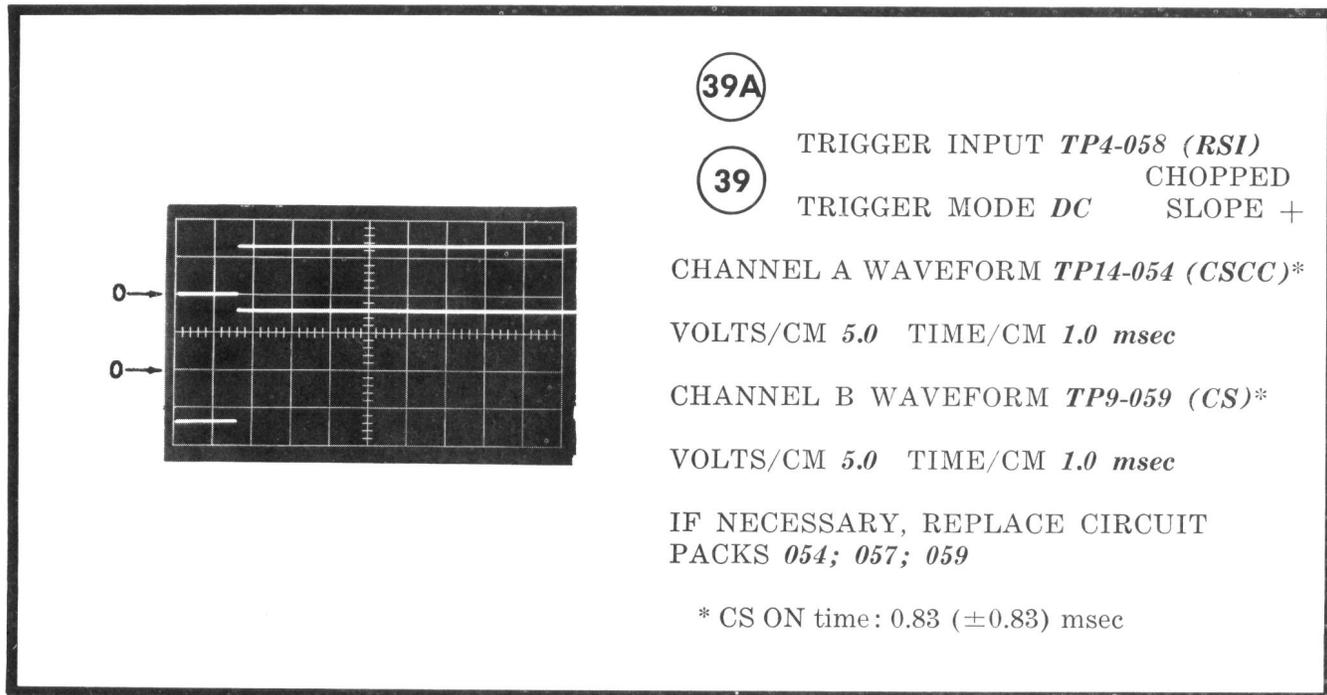
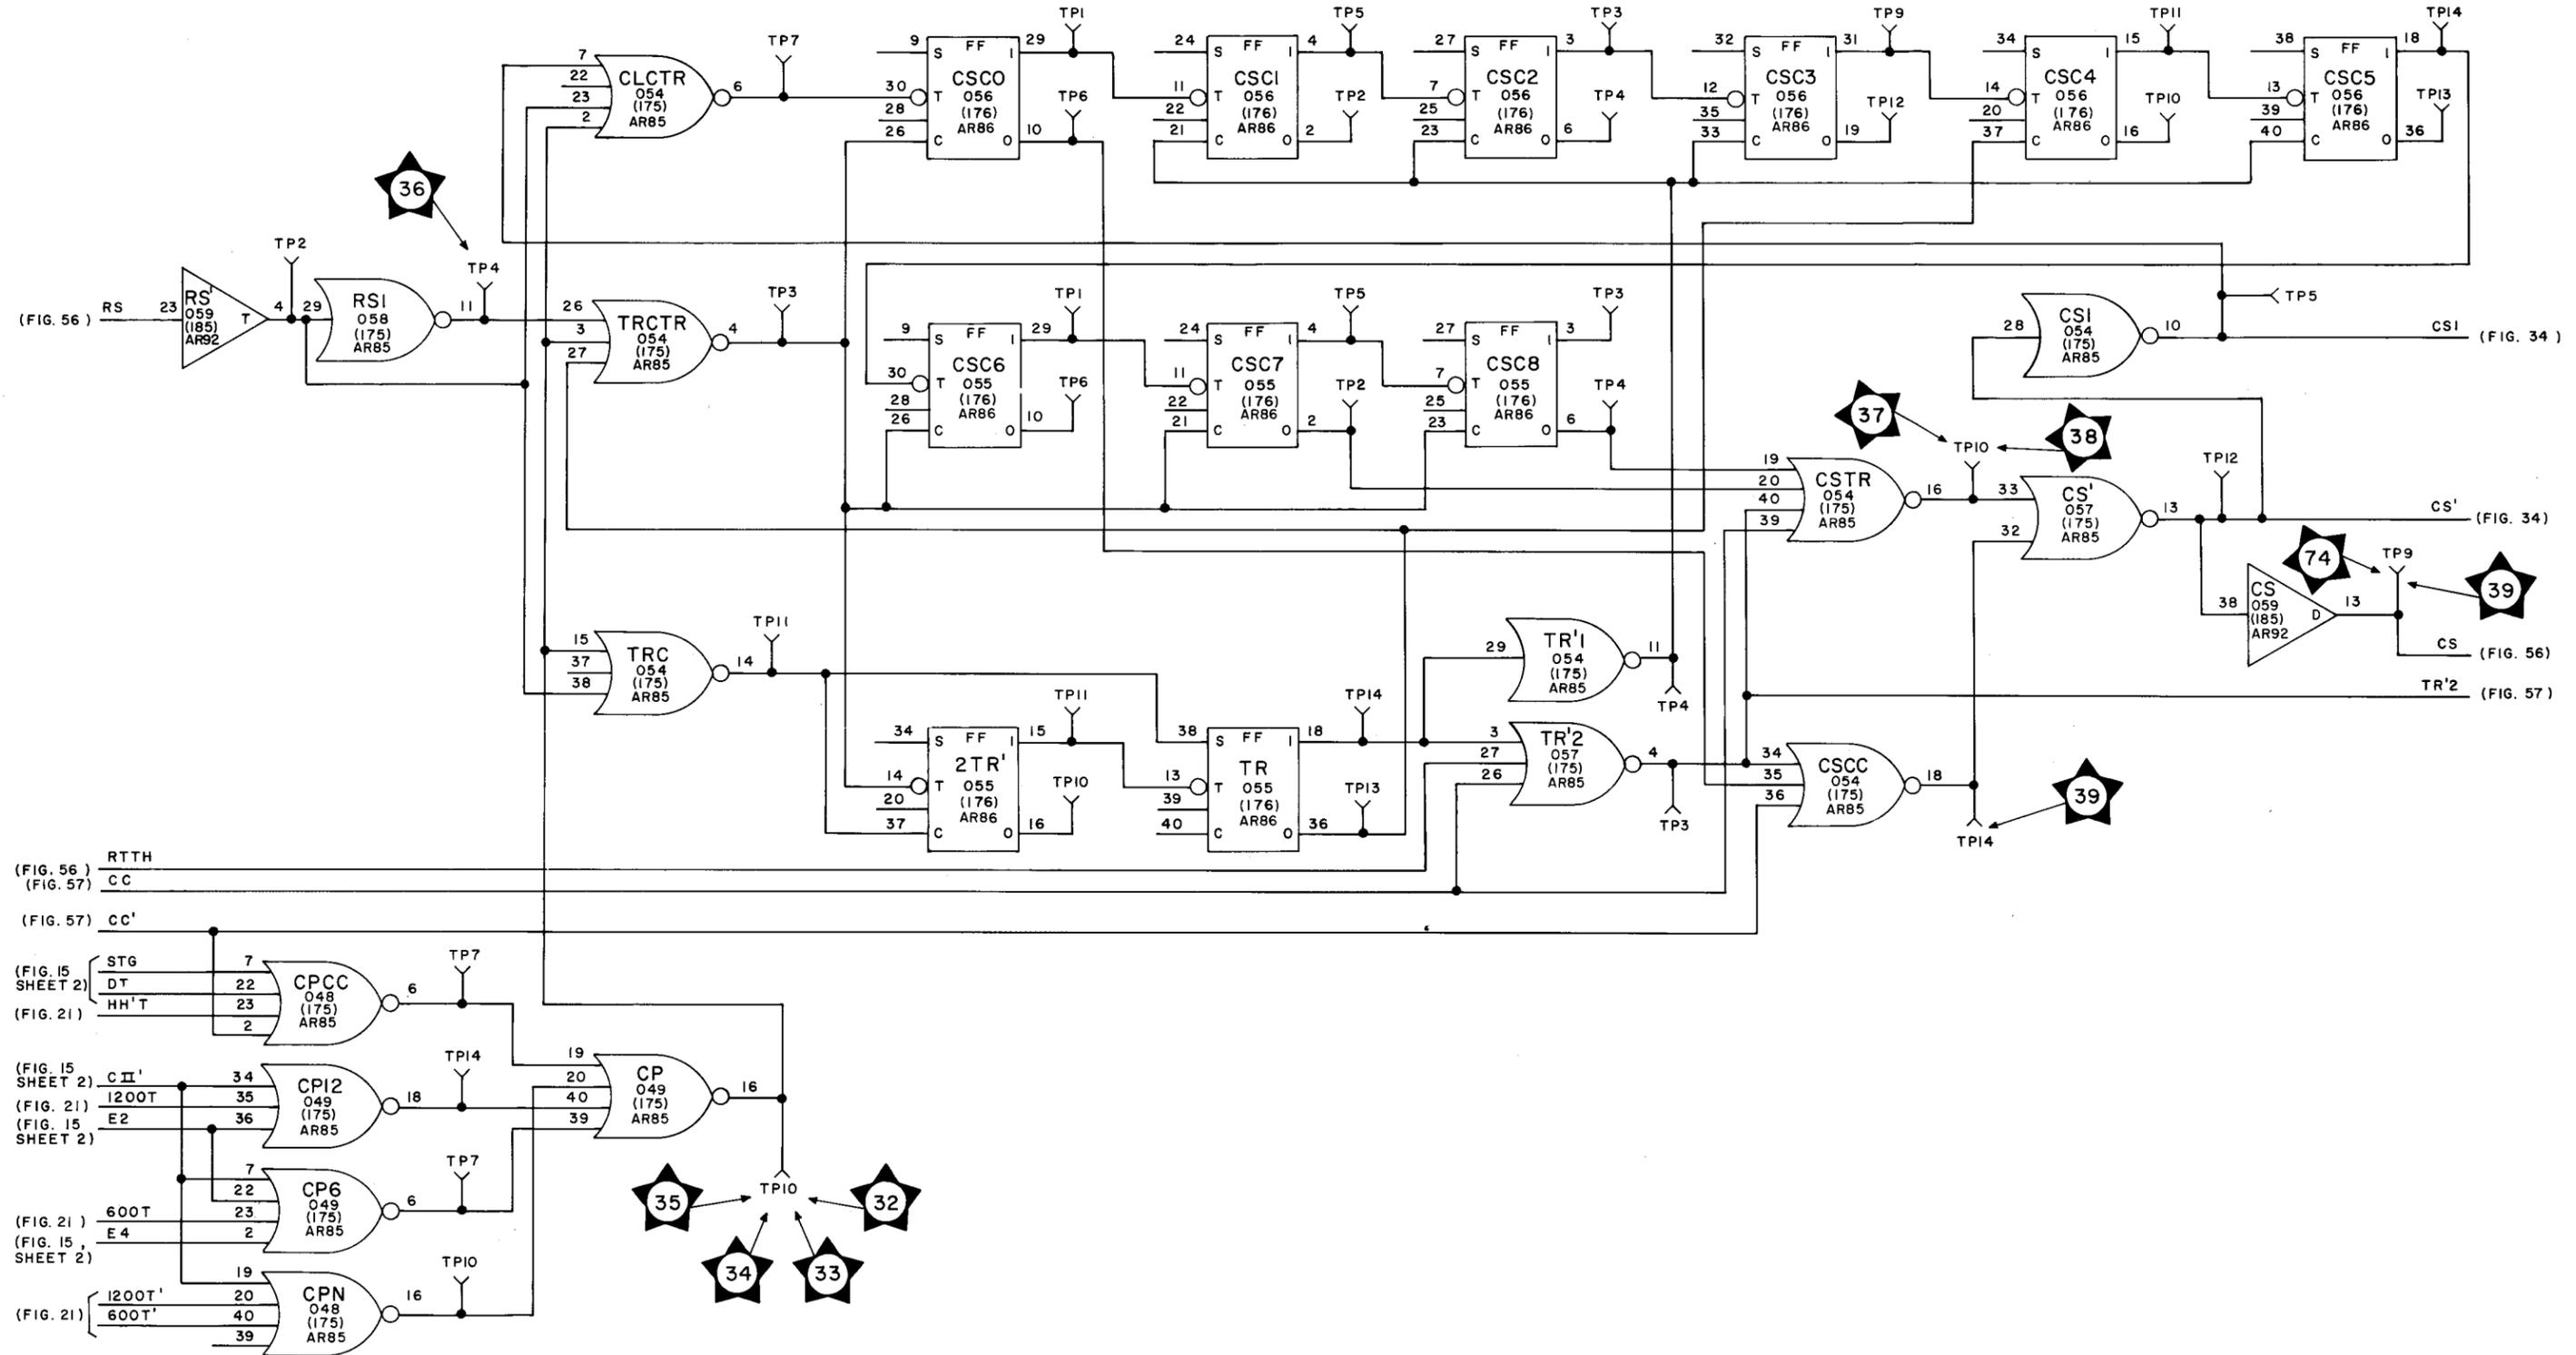
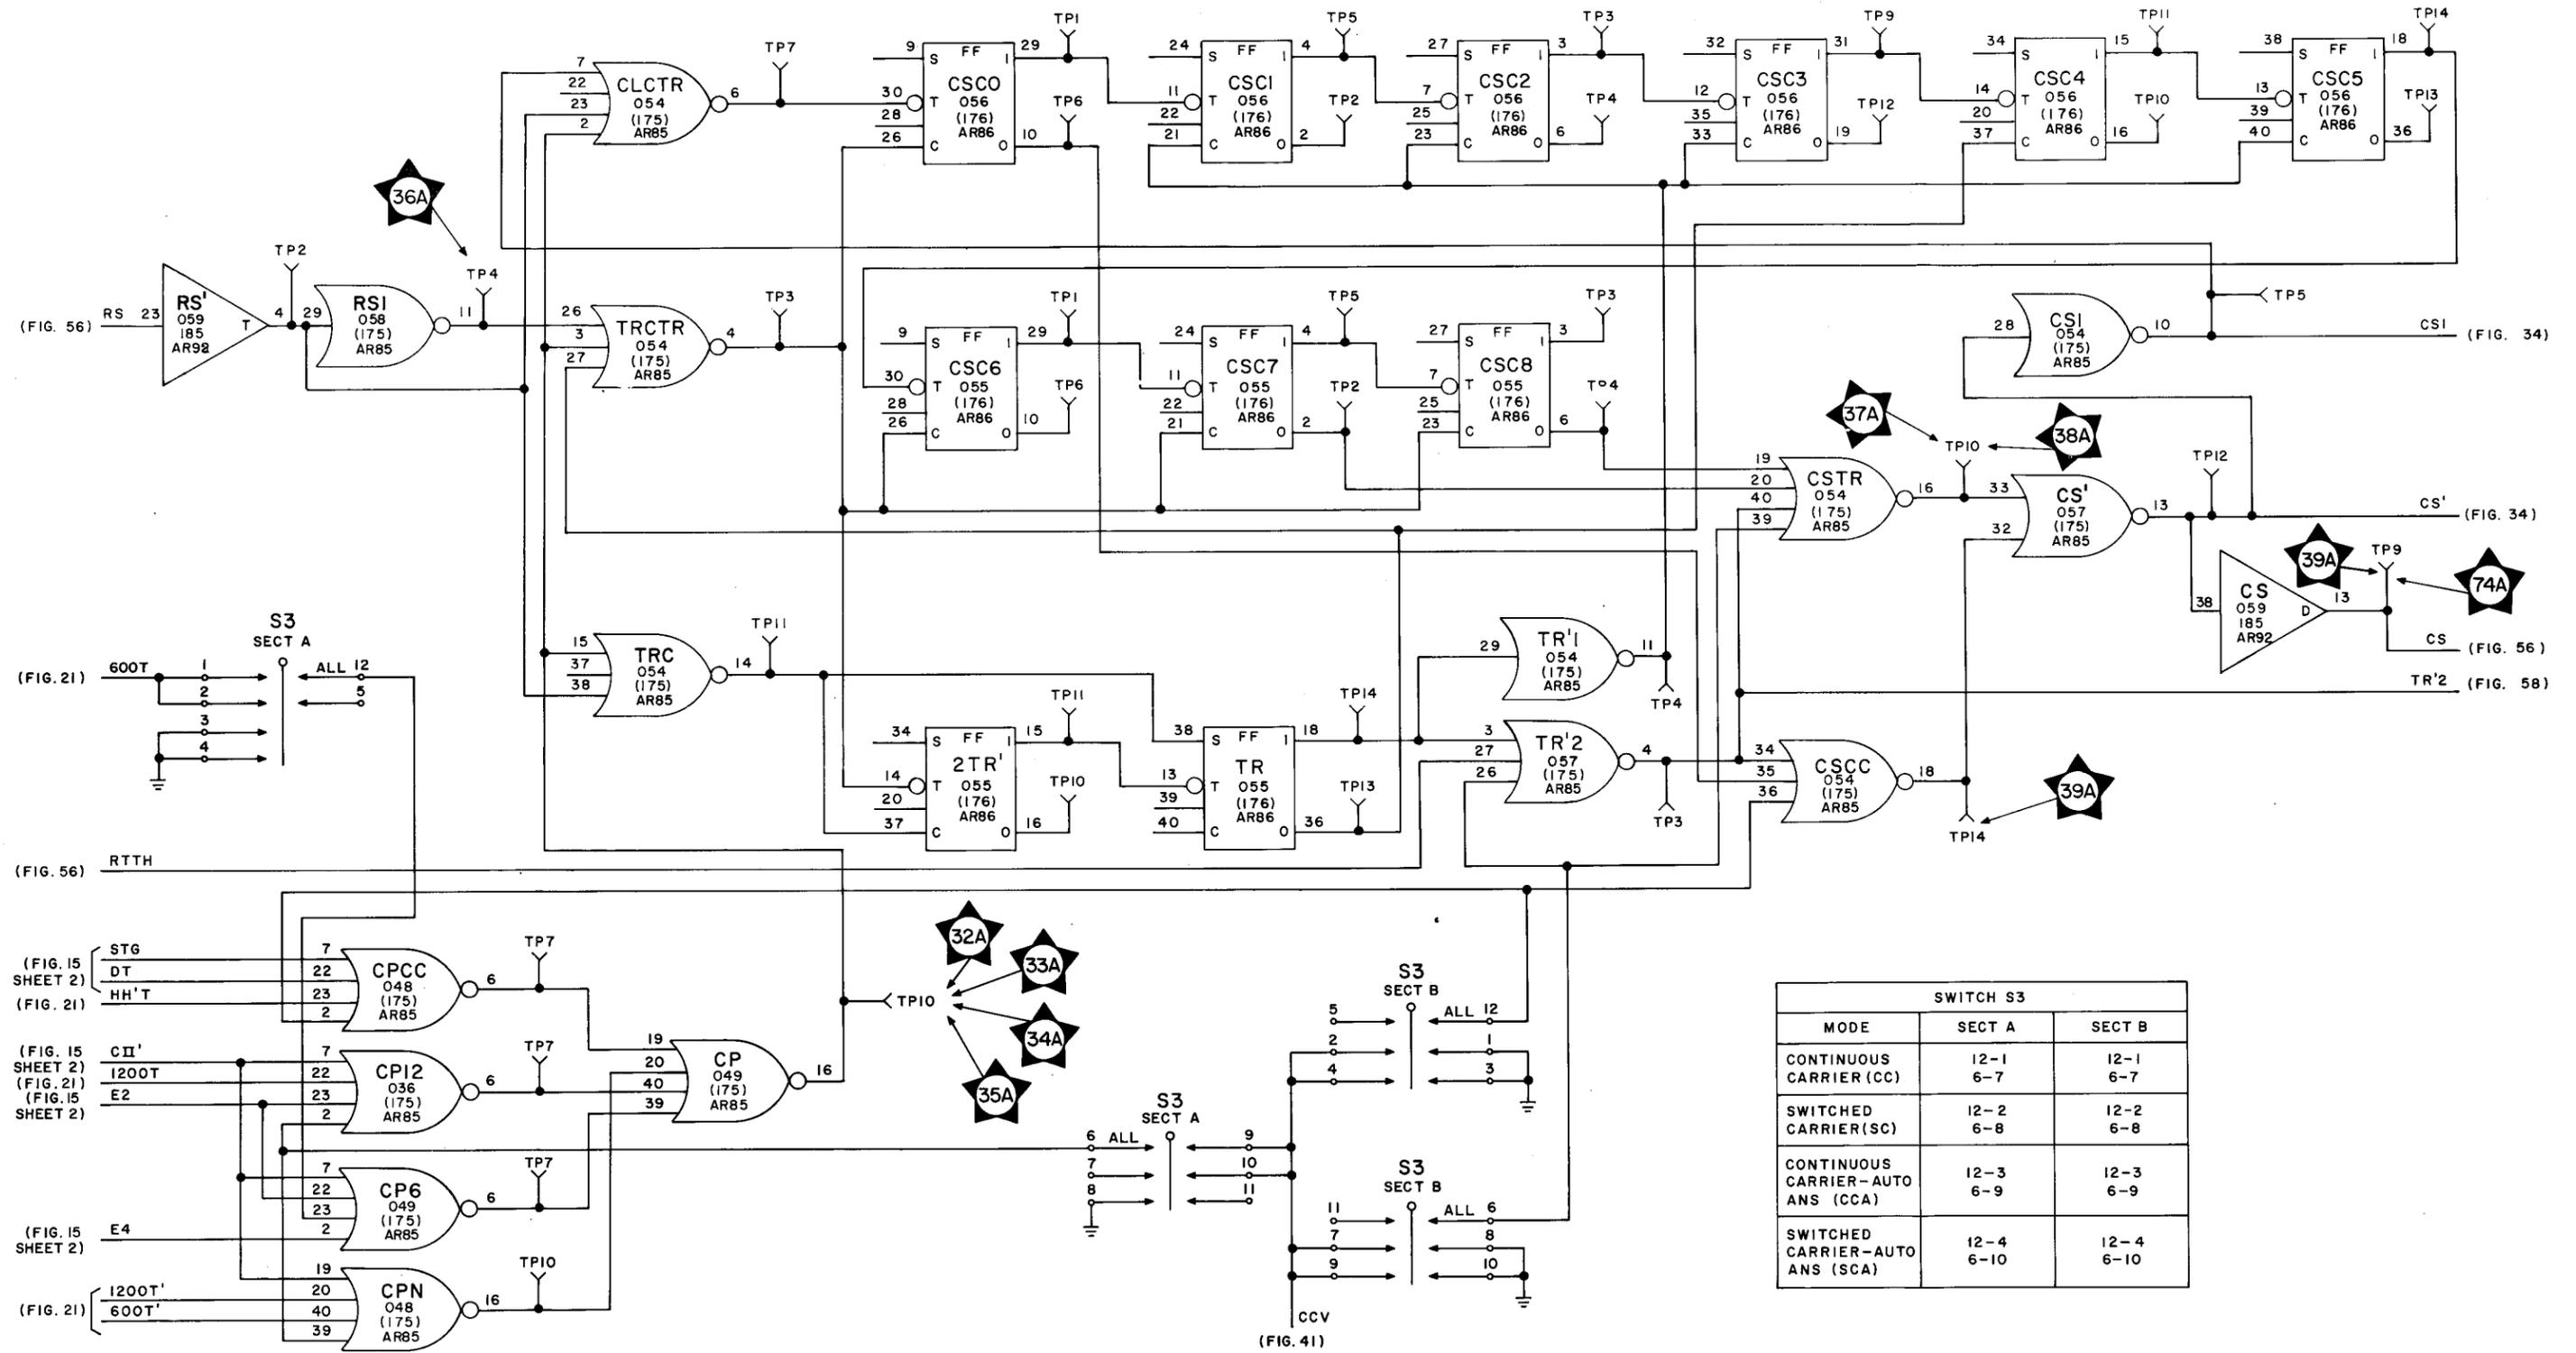

Fig. 26 — Control Timing Test
Fig. 27 — Control Timing Circuits, Functional Schematic for Data Set 205B1
Fig. 28—Control Timing Circuits, Functional Schematic for Data Set 205B2
11.23 Voltage and waveform requirements shown in Fig. 22 through Fig. 26 are keyed to the functional schematic shown in Fig. 27. Tests suffixed by the letter A are for Data Set 205B2 and are keyed to Fig. 28.